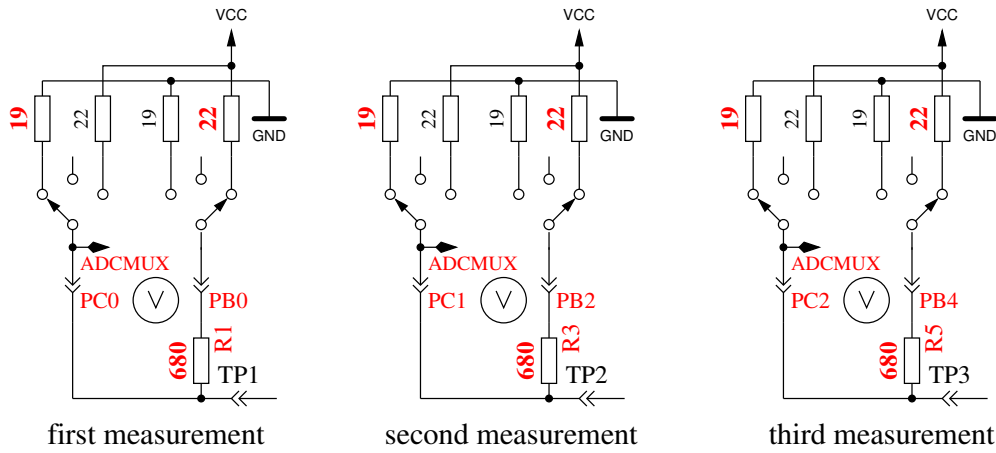

Figure 5.64. Measurement of internal resistance of Port C switched to GND
5. **This step tests the capability of GND (-) connected 470kΩ resistors (H) to pull the test pins to GND.** Row 1 shows the text “RH-”. Row 2 should display zero for all three pins.
6. **This step tests the capability of VCC (+) connected 470kΩ resistors (H) to pull the test pins to VCC (+).** Row 1 shows the text “RH+”. The results are shown als difference to VCC and should be near zero. Great differences from the best value for test 5 and 6 are errors such as isolation problem, flux material or damaged port.
8. **Measuring of internal resistance of pin output switched to the GND signal.** This test and the follwing tests will only be done, if the option AUTO_CAL is selected. The internal resistance of the port C outputs switched to GND (-) are measured with the current of to VCC (+) switched 680Ω resistors, see Figure 5.64. Only the three pins of the ADC port are measured, the resistor port B (PB0,PB2 and PB4) can not be measured without hardware modification. Is is assumed that the port resistance of the different ports are nearly identical. The resistor value will be shown in the next test.